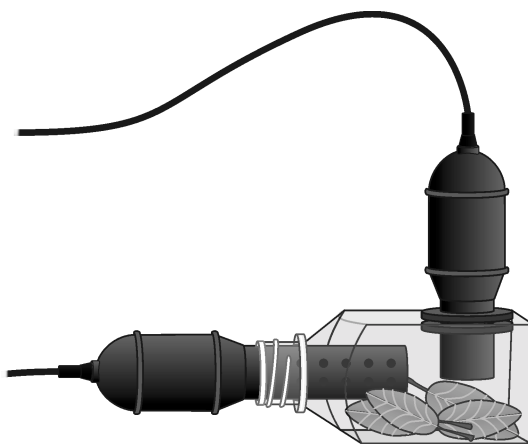

Figure 1
5. Place the O₂ Gas Sensor into the BioChamber 250 as shown in Figure 1. Insert the sensor snugly into the grommet. The O₂ Gas Sensor should remain vertical throughout the experiment. Place the CO₂ Gas Sensor into the neck of the respiration chamber as shown in Figure 1. Wait 10 minutes before proceeding to Step 6.